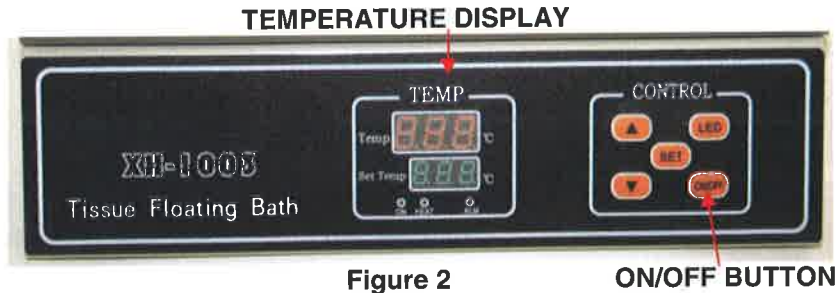

Figure 2
2. In the "Control" box portion of the front panel press the "ON / OFF" button. (Figure 2).